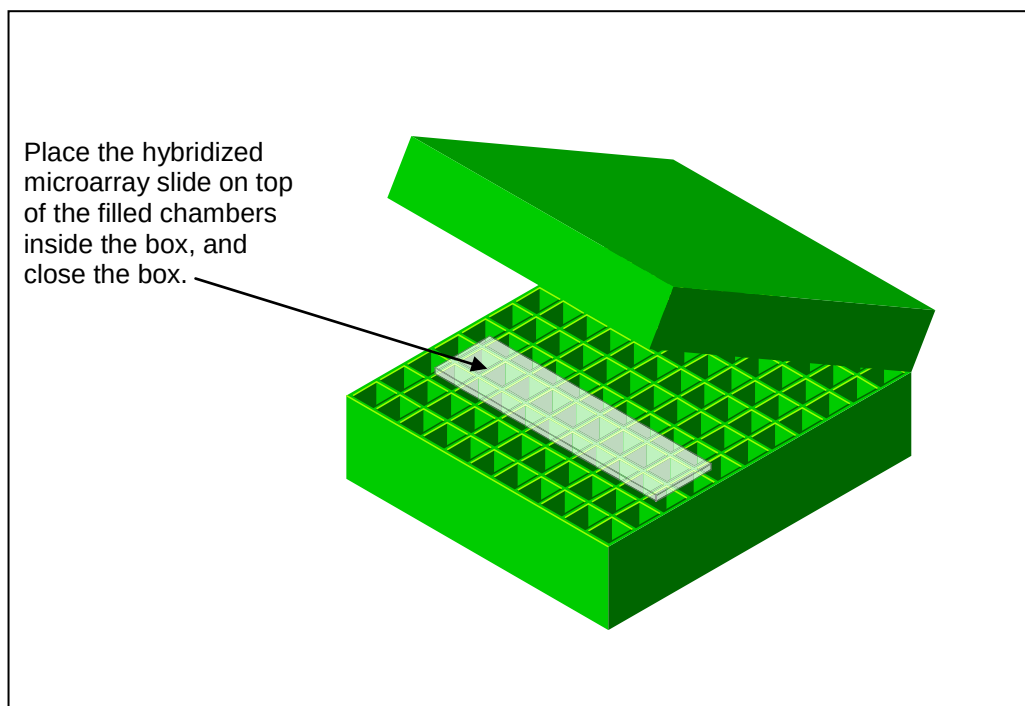

Figure 2: Step 4Bc → aRNA Hybridization—Glass Slide Inside Chamber Box²
- ii. Use the applicator stick provided to press along the adhesive areas to ensure a secure seal. Visually inspect the seal from underneath the microarray; inconsistent patterns in the black adhesive may indicate an insecure seal. Re-use the applicator stick if needed (Figure 2)
- 11) Place the entire labeled target plus the microarray set-up into a closable, chambered box* that is humidified by 2X SSPE buffer in the 50°C oven for 14 to 16 hours. A sealed chamber ensures that the appropriate humidity level is maintained during incubation. (See Figure 2).
Figure 2, below, provides an illustration of Step 4Bc, where the hybridization protocol is completed using the glass cover slide method, and specifically, the OneArray[®] DNA Microarray is placed into the chambered box.